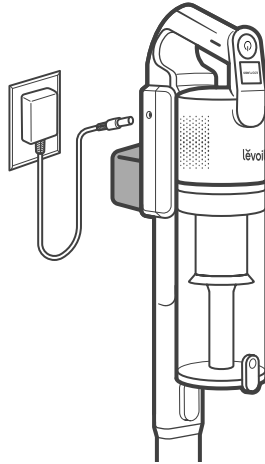

Figure 2.3
[Figure 2.3]
3. Insert the charger into the charging port on the battery. **[Figure 2.3]**
4. Plug the charger into the outlet. The battery lights will blink while charging. **[Figure 2.3]**